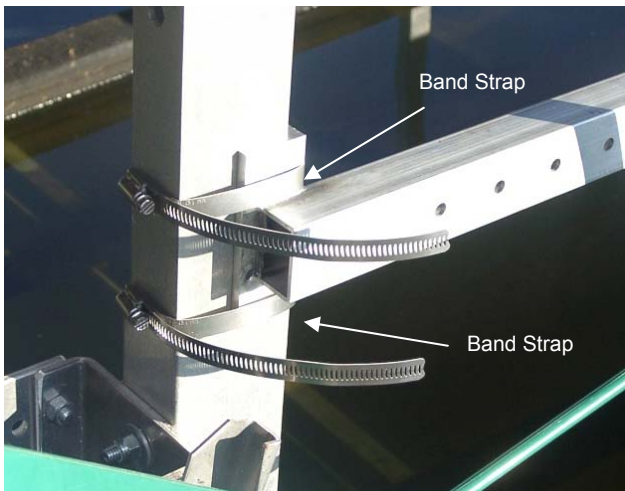

FIG 8: Left Winch Post Installation View
3. Fasten the inner arm with the two band straps over the angle bracket. Mount one band strap on top of bracket. Mount the other band strap on bottom of bracket. See Figs. 8 or 9.